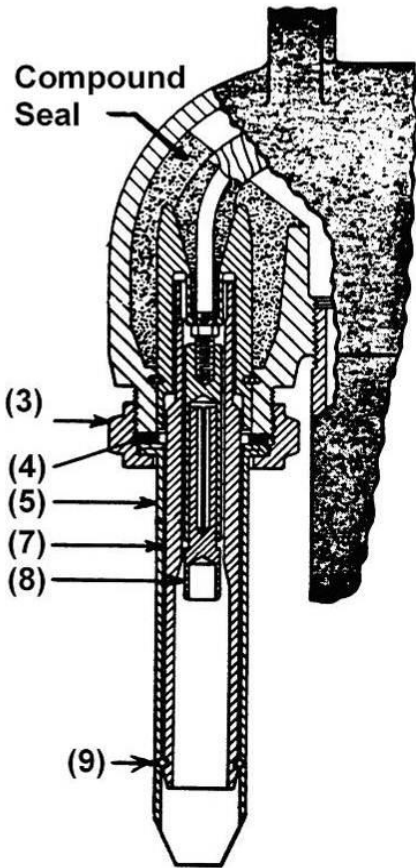
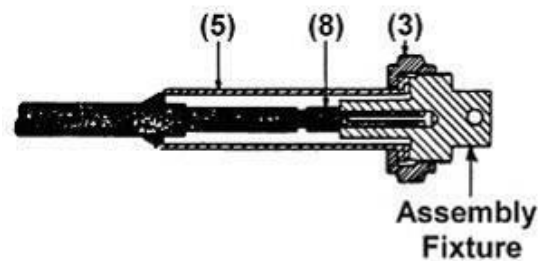

Figure 29
Figure 34
- A. Disassemble Terminal – Figure 29, removing the union nut (3), wiping sleeve (5), gasket (4), insulating sleeve (7), and plug contact (8) leaving the terminal as shown in Figure 16. To remove sleeve (7), pull with a steady twisting motion.
- F. Push Plug Contact – (8) into assembly fixture as far as possible, Figure 34, and turn union nut up tightly by hand. Be sure to omit gasket (4) at this time. Assembly fixture is a tool which allows the cable to be wiped to wiping sleeve, outside the cutout body. If an assembly fixture is not available, use the cutout, being sure to omit gasket. Mark the cable at the end of the wiping sleeve and lower sleeve on cable. Apply additional layer of dacron-glass tape on cable to make a snug fit into the wiping sleeve. This will center the cable and prevent lead from flowing into sleeve. Reassemble as in Figure 29, again omitting gasket.
- L. Place Gasket – (4) on top of wiping sleeve (5) flange, Figure 29, and push the assembled terminal back into position until the union nut (3) catches onto the threads of the cutout, allowing the excess petrolatum to squeeze out through the gasket joint. Tighten the union nut sufficiently to seal the joint.